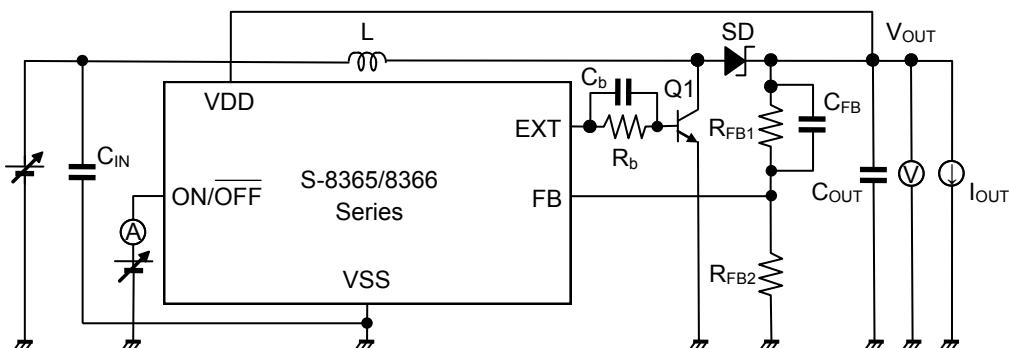

Figure 10
*2. This is the guaranteed value measured with external parts shown in "Table 10 External Parts List" and with test circuits shown in Figure 10. The operating start voltage varies largely depending on diode's forward voltage. Evaluate sufficiently with actual device.